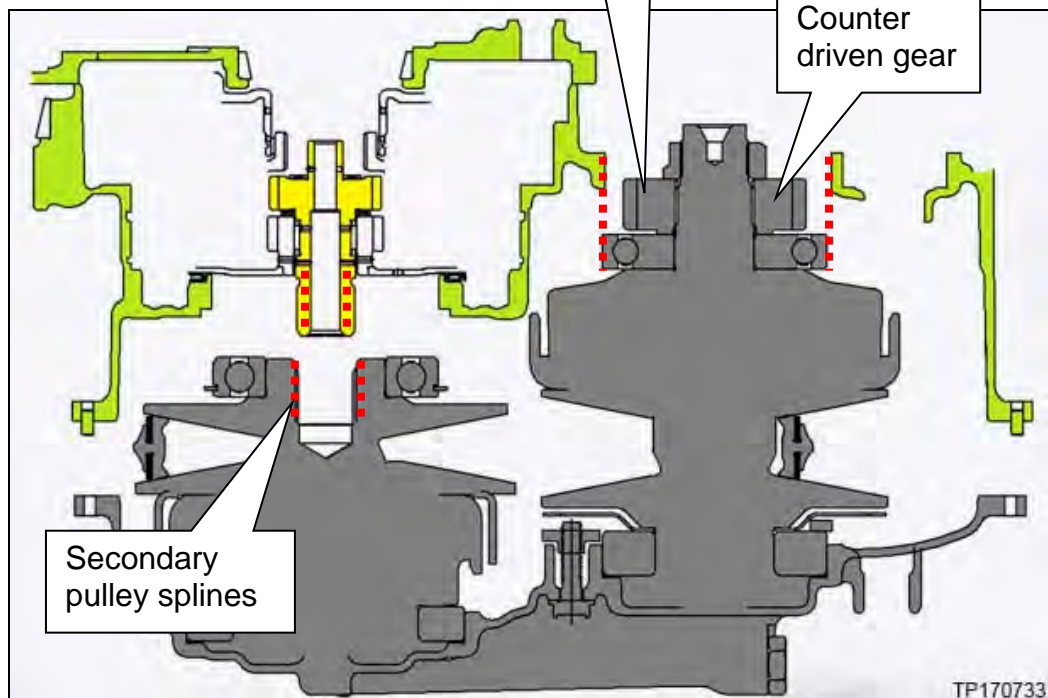

Figure 8P
**NOTE:** This will allow the splines of the secondary pulley and the planetary carrier plate to align. See Figure 8P.